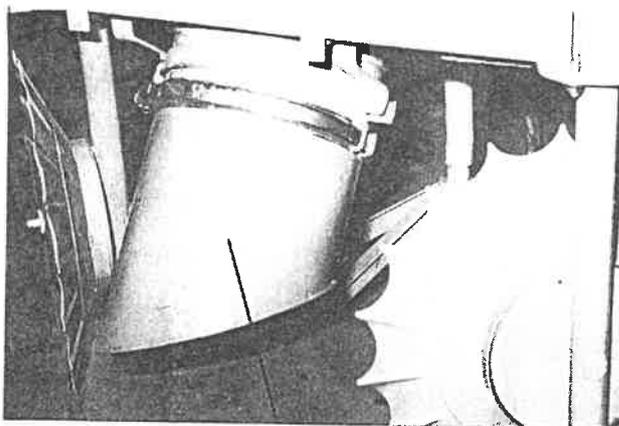

Fig. 5.1
Note: The suction arrangement (Fig. 5.1) is designed for a accurately chopped or short-cut heavy material with a moisture content of more than 50%.
- The material is very short and heavy. Lengthen the suction arrangement (Fig. 5.1) with an additional 70 mm length of suction tube and a pipe clip.